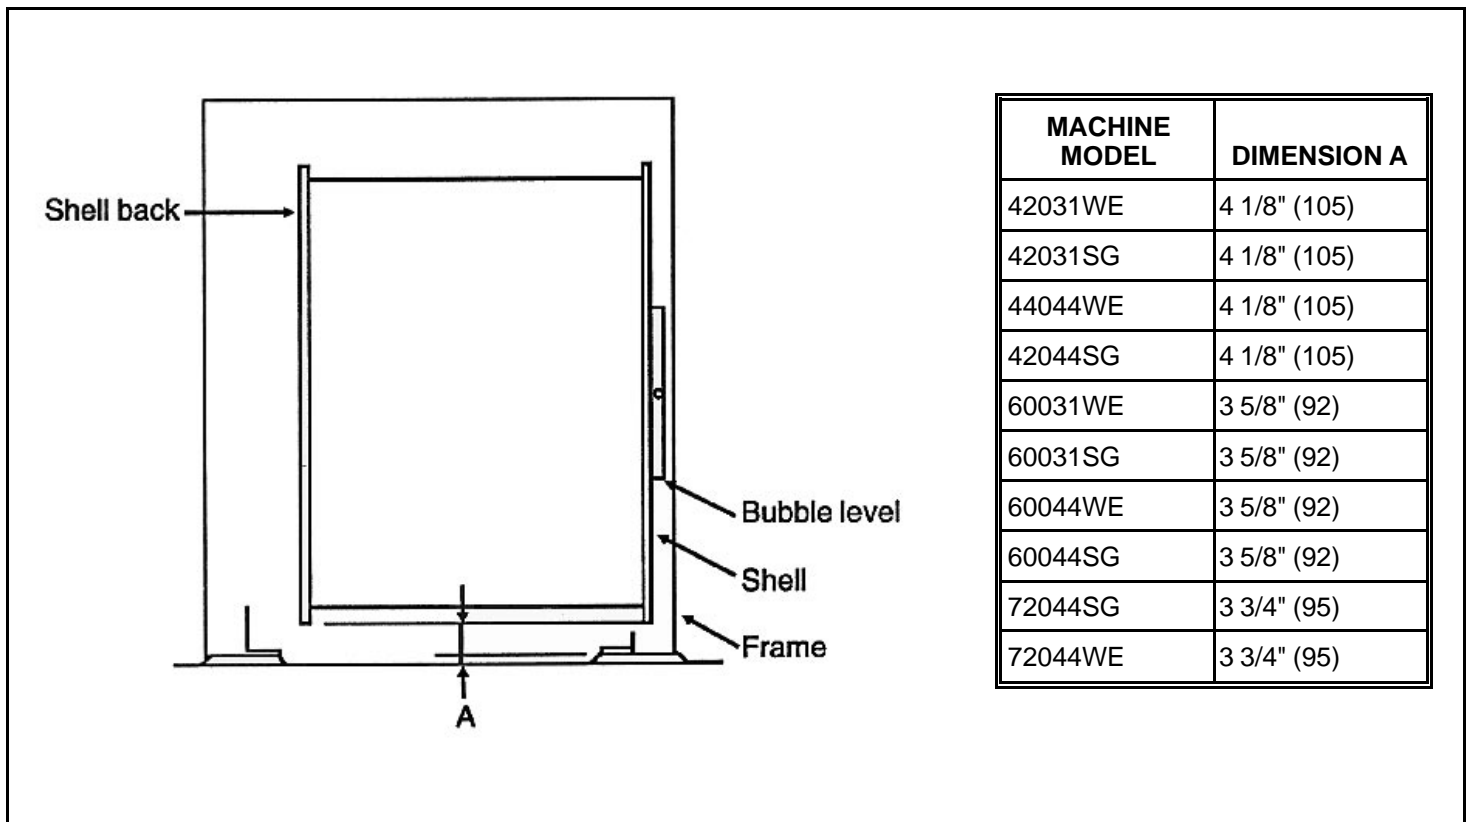

FIGURE 3 (MSSM0302AE)
2. The shell and cylinder should be level front to back. Check this with a bubble level, as shown in FIGURE 3.